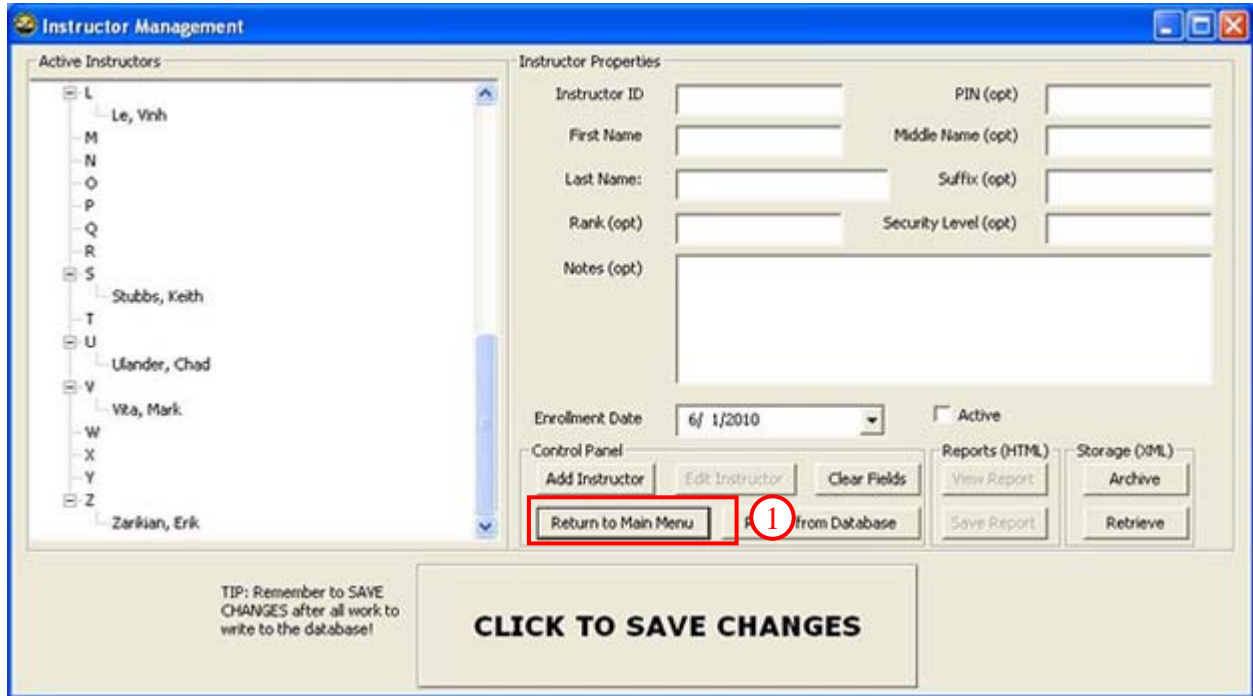

Figure 47. Instructor Management - Return to Main Menu
1. Click the [RETURN TO MAIN MENU] button to close the screen and return to the *Main Menu* (Figure 47).